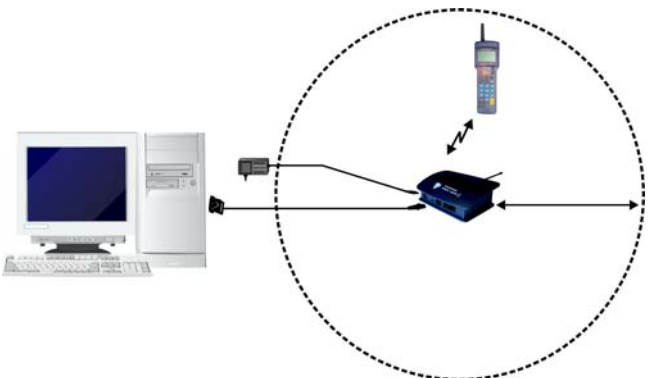

Figure 18 - Downloading Data with F734-E/RF
*When inserting the battery pack, first slide it towards the springs compressing them until the contacts at the other end are cleared (see Figure 18). Then, push downwards to insert the pack (see Figure 19). Be very careful not to damage the contacts when pushing downwards.*